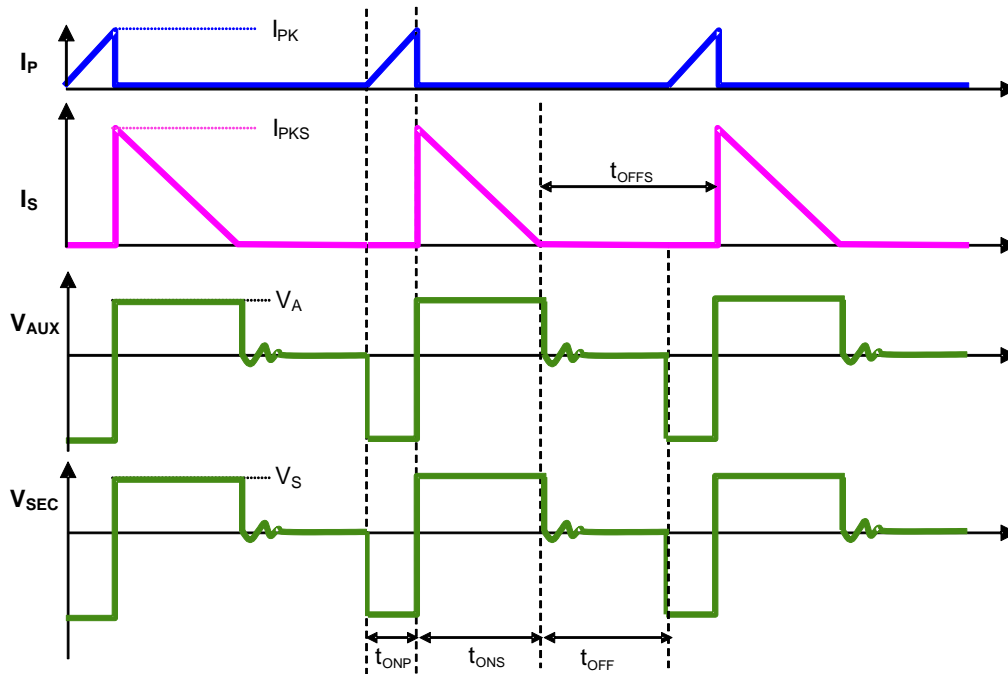

Figure 2. The Operation Waveform of Flyback PSR System
Figure 2 shows the typical waveforms which demonstrate the basic operating principle of AP3776 application. And the parameters are defined as following.
As illustrated in Figure 2, when the current $i_p(t)$ rises up to I_{PK} , the switch Q1 turns off. The constant peak current is given by:
The AP3776 can work in constant-current (CC) mode. Figure 2 shows the secondary current waveforms.